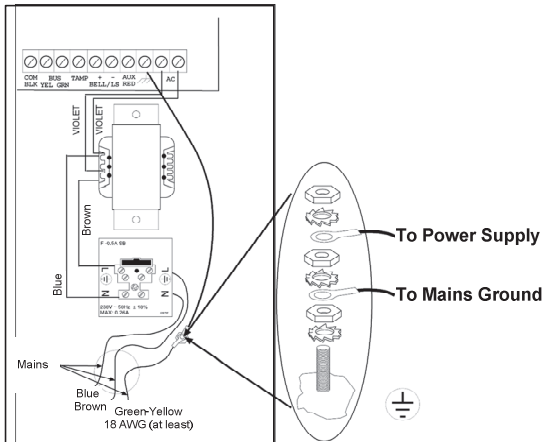

Figure 3: SMPS – AC & Ground Connection
- Connect the incoming mains cable to the main fuse terminal block as shown in Figure 3.